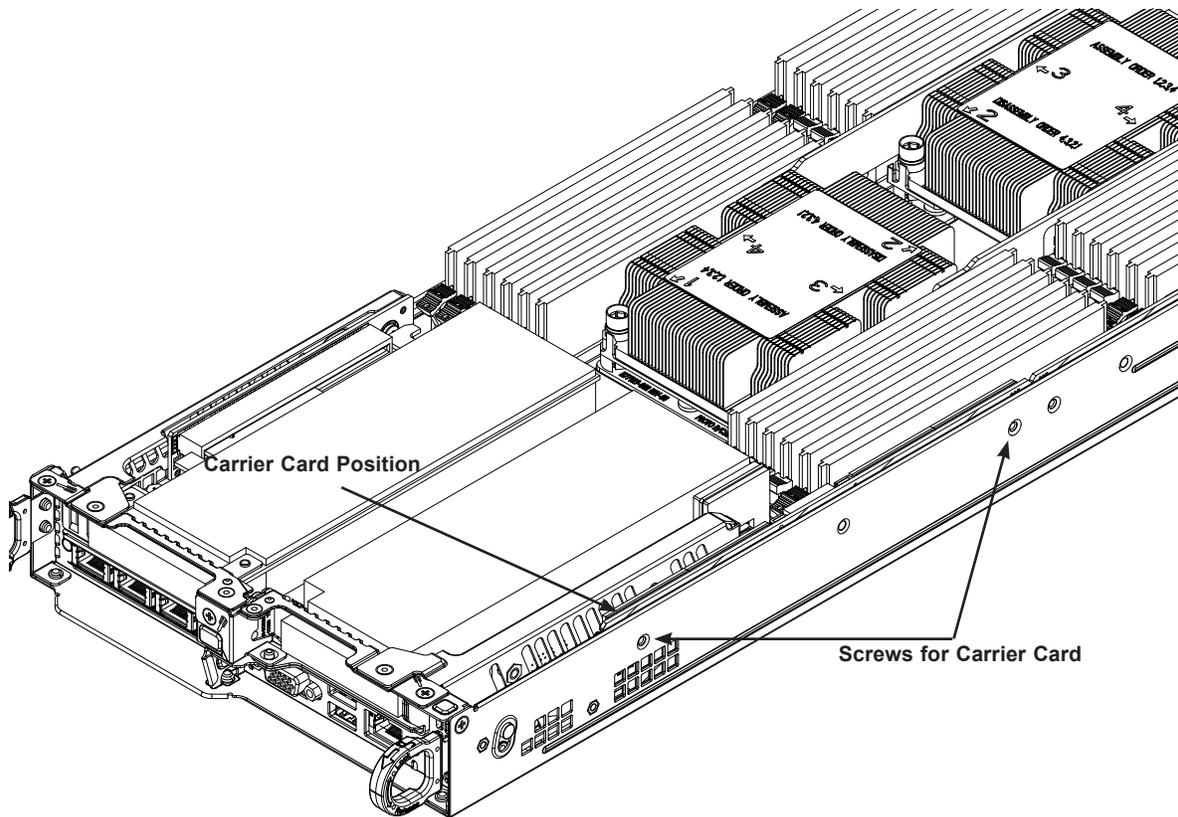

Figure 8. Locating the M.2 Carrier Card Slot and Screws
3. Remove the two screws from the left side (viewed from the chassis front) of the node chassis that secure the carrier card to the node chassis. (See Figure 8.)